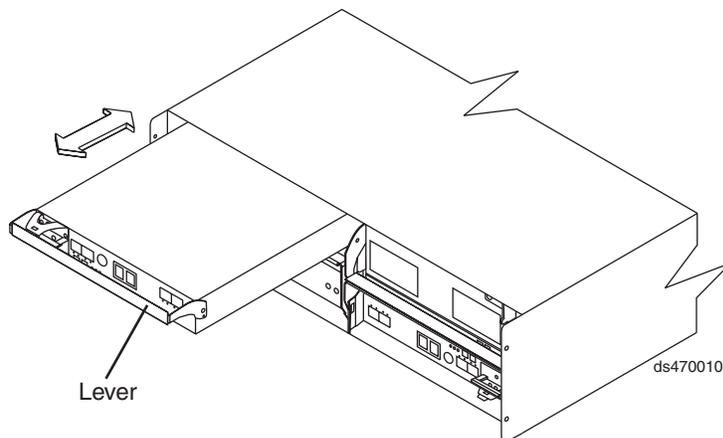

Figure 99. Removing a controller from the DS4700 Express
9. Slowly pull the lever away from the chassis to remove the controller from the bay. Use two hands when releasing the controller levers. Figure 99 shows the controller sliding from the storage subsystem chassis.